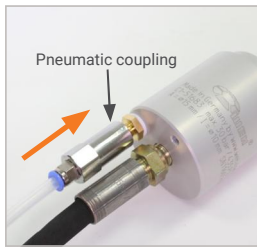

Figure 3
- ▶ Plug the pneumatic coupling (Pos. 4) onto the control - / bleeding valve (Pos. 3) and keep the coupling plugged in (*Figure 3*). When the pneumatic coupling is plugged in, a short pressure pulse is applied to the control - / bleeding valve. The elastic front seals (Pos. 7) are compressed and the connector creates a pressure-tight connection.